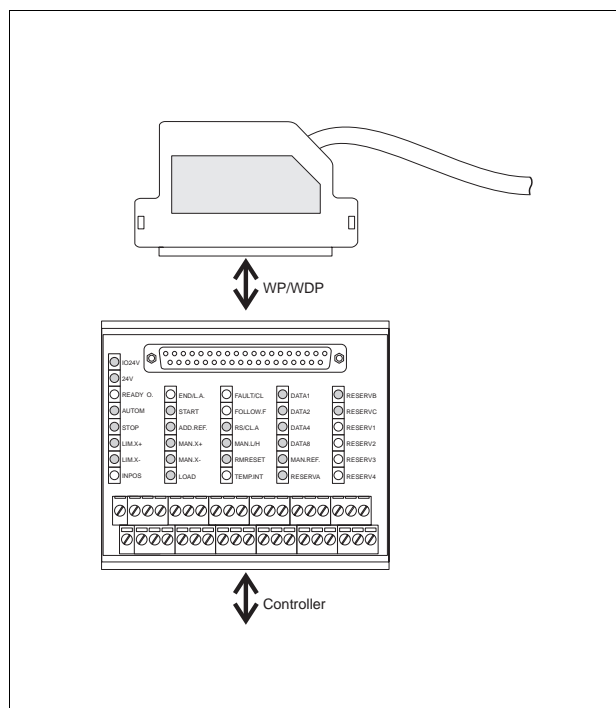

Fig. 6-9 Starting the D 731 terminal adapter
2. Connect the D 731 terminal adapter cable to the WP/WDP unit, see fig. 6-9.